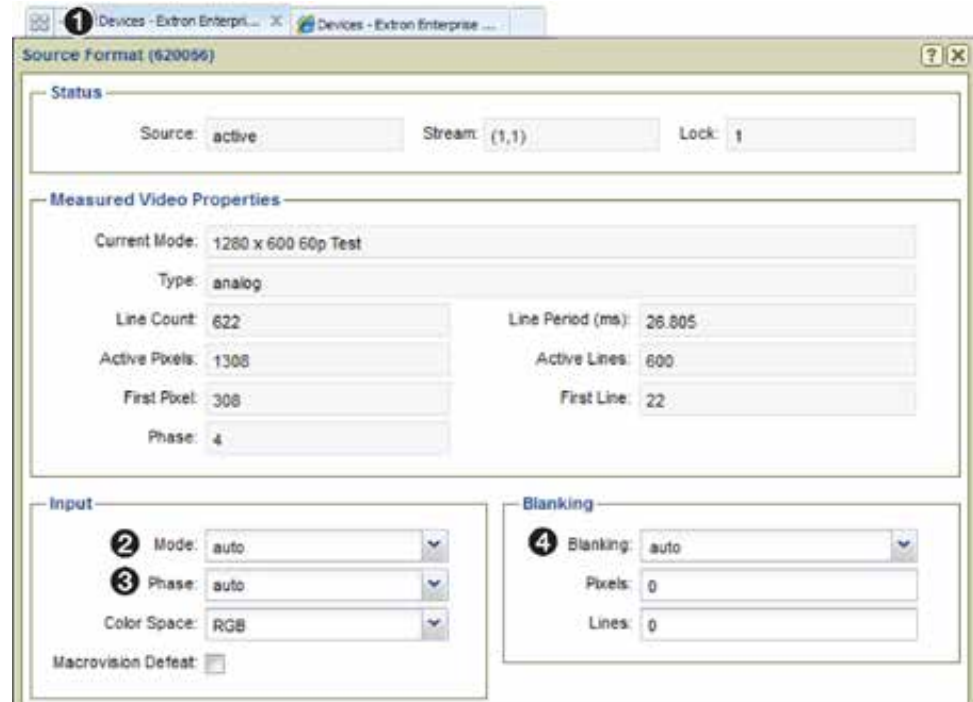

Figure 143. Force a Resync of the Source
41. Click the left tab (**Source Format menu**), (see figure 143, ①) and force a resync of the source by reselecting **auto** from the **Mode** drop-down list (②).
42. Select **auto** from the **Phase** drop-down list (see figure 143, ③ on the previous page).
43. Select **auto** from the **Blanking** drop-down list (④).